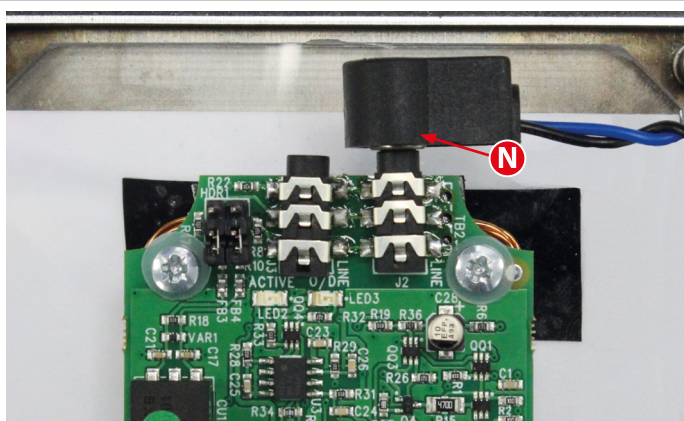

Fig. 18
17. Next take the **blue/black** audio cable and plug it into the audio jack input at the top right of the Induction Loop, as shown in **Fig.18, N**.